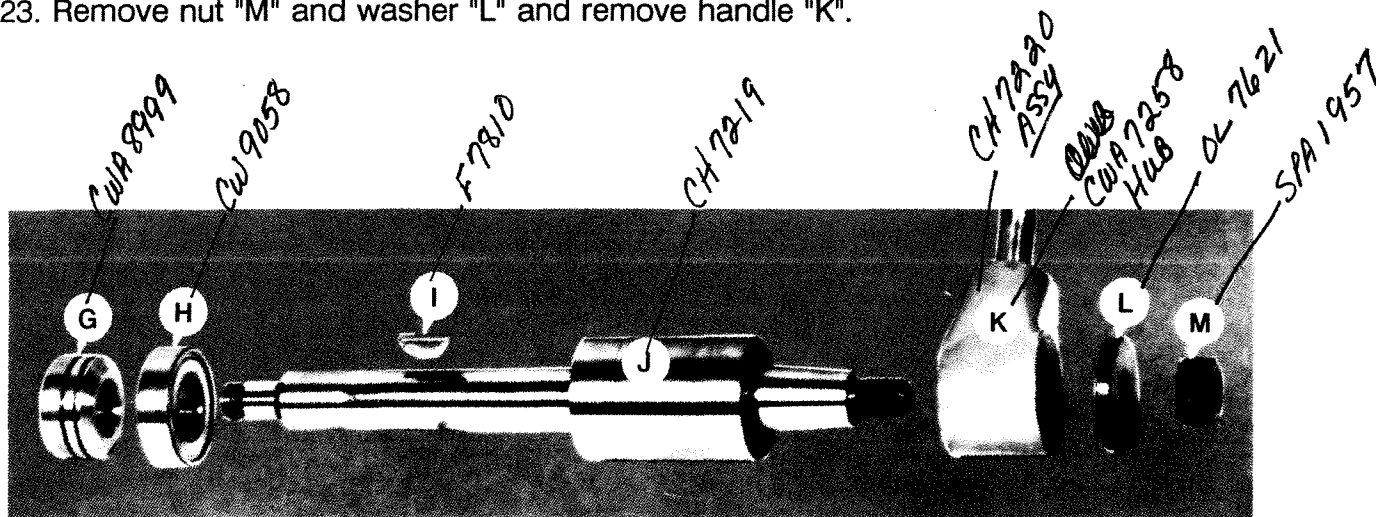

Figure 2.34 - Turret Indexing Shaft and Components
22. Remove key "I" to remove bearing "H" and spacer "G", Figure 2.34 .
1. Replace bearing "H", spacer "G", and key "I" on shaft "J", Figure 2.34 .
3. Coat the O.D. of spacer "G", Figure 2.34, with Molyube lubricant.
5. Assemble handle "K", washer "L", and nut "M" on shaft "J", Figure 2.34 .